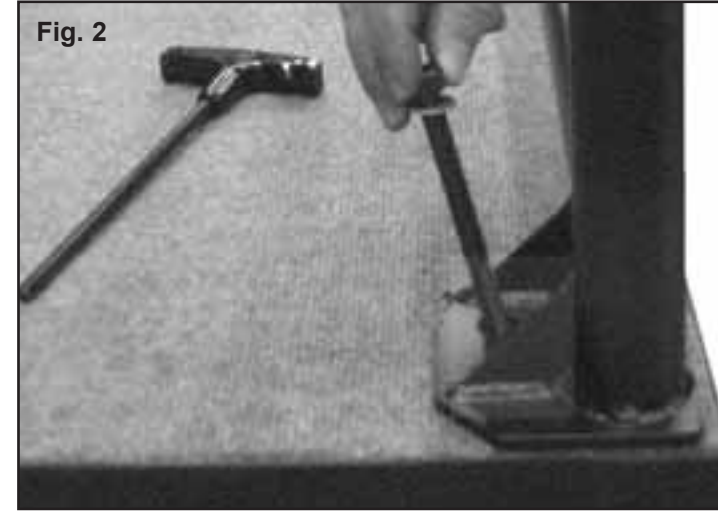

Fig. 2
1. Rotate the yellow handle above the caster so that it is perpendicular to the leg. (See Fig. 2)